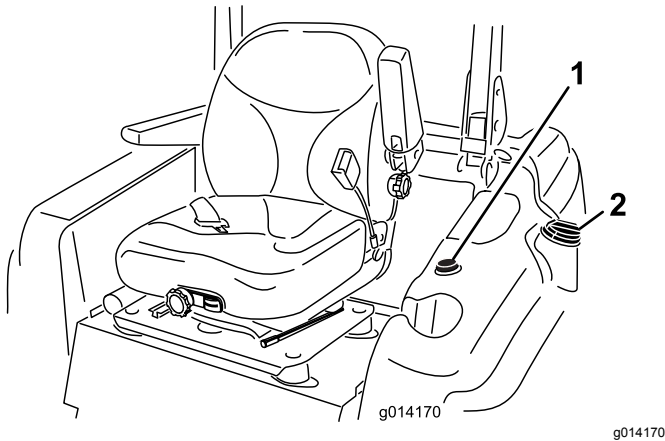

Figure 10
3. Clean around the fuel tank cap and remove the cap (Figure 10).